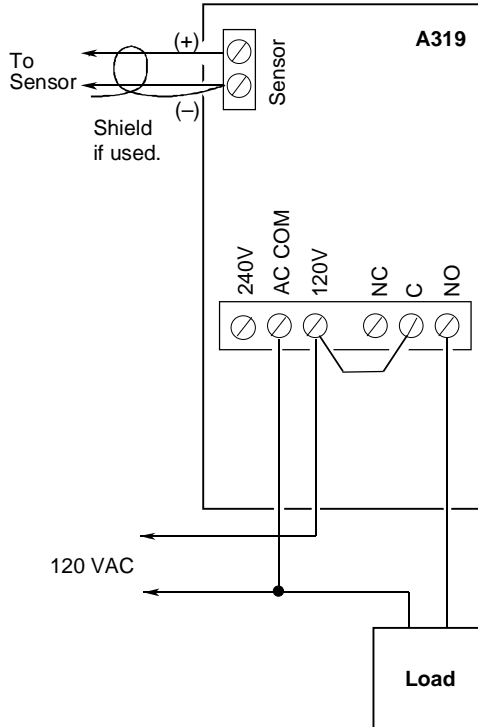

Figure 5: Typical Line Voltage (120 VAC) Wiring for the A319 Control
Refer to Figures 5 and 6 for typical wiring diagrams.
- Consult the typical wiring diagrams (Figures 5 and 6) for proper wiring and terminal designations.
- When shielded cable is used, connect shield to the "-" terminal of sensor terminal block (as shown in Figures 5 and 6).